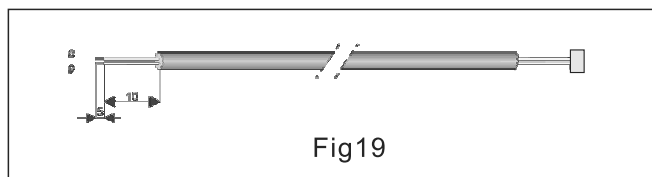

Fig19
5. Prepare the twin wire cable end for connection as shown in fig.19.
6. Disconnect the resistor (5) from the indoor unit twin wire cable (3) and connect the win wire cable (6) connector instead.
7. connect the other end of the twin wire cable (6) to the outdoor unit twin wire terminal (9).